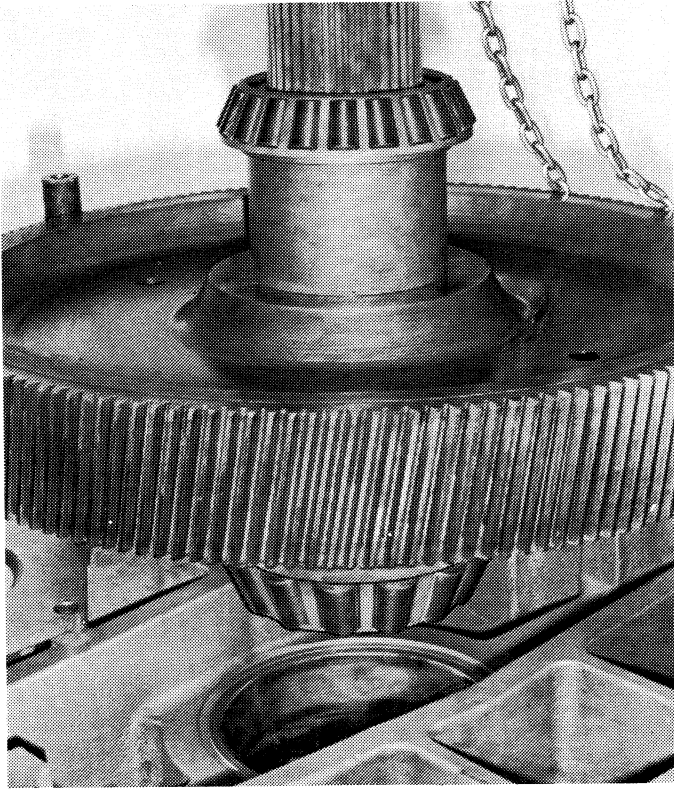

Figure 6-30. Removing or Installing Output Group of Parts.
7. Remove the output shaft and attached parts. See Figure 6-30.